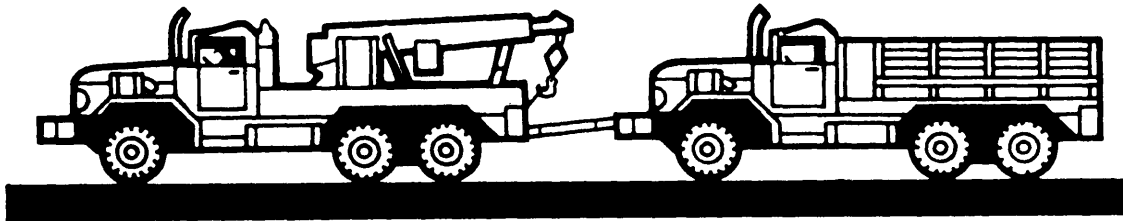

Figure 5-11.-Cross-country tow.
CROSS-COUNTRY TOW.— Over rough terrain, cross-country tow controls the towed vehicle well. The procedure for rigging for the cross-country tow is as follows: (1) attach a chain lifting sling or the hoisting bar between the front lifting shackles of the truck; (2) attach a tow chain from the wrecker tow pintle to the lifting shackles of the disabled truck; (3) place the hoist hook block in the lifting sling approximately 12 inches off the ground; (4) extend the boom to remove the slack from the tow chain, and keep the towed vehicle from ramming into the rear of the wrecker truck; and (5) support the boom with the shipper braces to prevent impact loads on the crane mechanisms. (See fig. 5-11.)